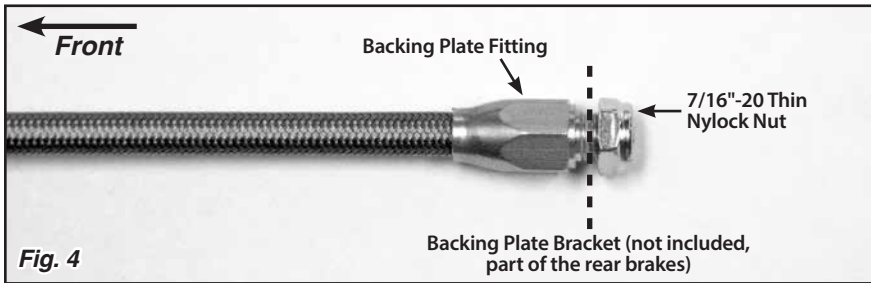

Fig. 4
**Step 2:** Insert the backing plate fittings into the backing plate brackets, and secure each one with a 7/16"-20 thin nylock nut. The backing plate brackets are part of the braking system and are not supplied by Lokar. **Fig. 4**